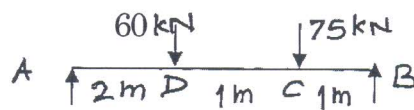

Fig. 1
- (c) Using moment area method, find the slope and deflection at the point C for a simply supported beam with uniform cross-section shown in Fig. 1. Take $E = 2 \times 10^5$ MPa, $I = 2 \times 10^8$ mm⁴. [7]